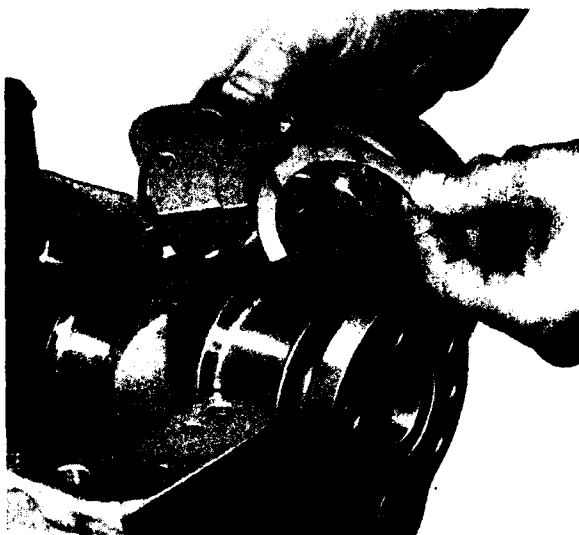

Fig. K.5.
4. The single upper half thrust washer is removed by rotating it with a thin piece of wood until it can be lifted out of its recess. NOTE : The steel faces of the lower thrust washers should face inwards towards bearing cap (Refer Fig. K.5), the steel face of the upper thrust washer should also face inwards.